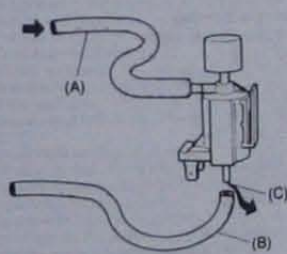
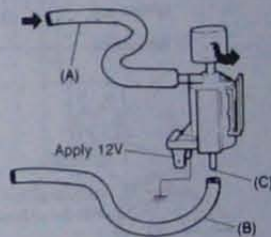

Fig. 4.21 Shutter valve diaphragm three-way solenoid valve operation (Sec 14)
Fig. 4.22 Shutter valve diaphragm three-way solenoid valve operation with battery voltage applied (Sec 14)
5 Disconnect the hose from the shutter valve vacuum diaphragm unit and trace it back to the vacuum solenoid which is mounted on the engine compartment bulkhead (photo). Disconnect the other hose from the end of the solenoid, then disconnect the electrical connections and remove the solenoid from the car. Blow through the hose which was disconnected from the vacuum unit (A in Fig. 4.21) and check that the air comes out of the other solenoid hose union (C). Then, using a 12 volt battery and two auxiliary wires, connect the battery across the solenoid terminals and blow through the hose (A) again. The air should now be expelled through the solenoid exhaust port (Fig. 4.22). If not the solenoid is faulty and must be renewed.